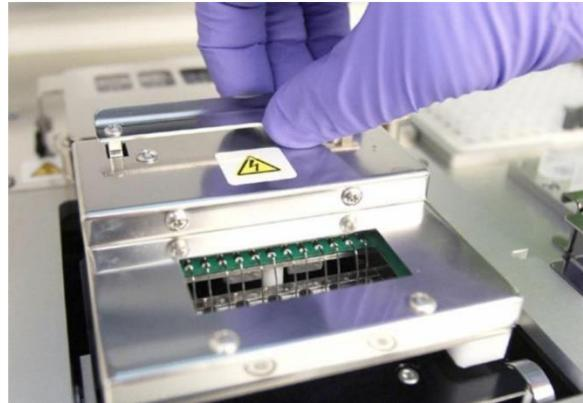

Figure 38: Releasing the fixture after a completed run.
21. To release the fixture after the run is complete, press the lever in the center top of the device towards the front with a finger as shown in **Figure 38**.